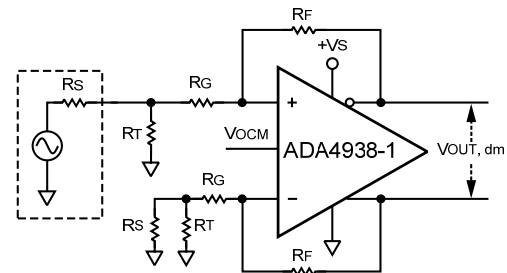

Figure 7. ADA4938-1 Configured for Unbalanced (Single-Ended) Input
For an unbalanced, single-ended input signal (see Figure 7), the input impedance is
**Table 8. Single-Ended Ground-Referenced Input, DC-Coupled,  $R_S = 50 \Omega$ ; See Figure 7**